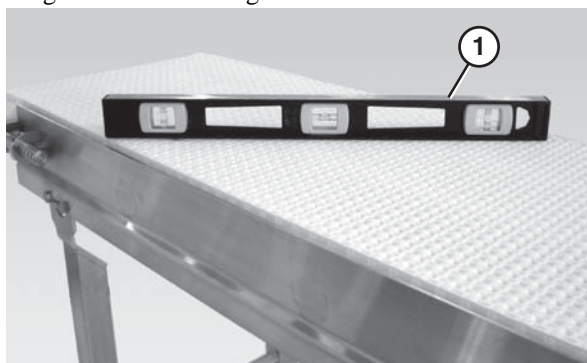

Figure 26
4. Use a level (**Figure 26, item 1**) to verify that both stand legs are the same height.